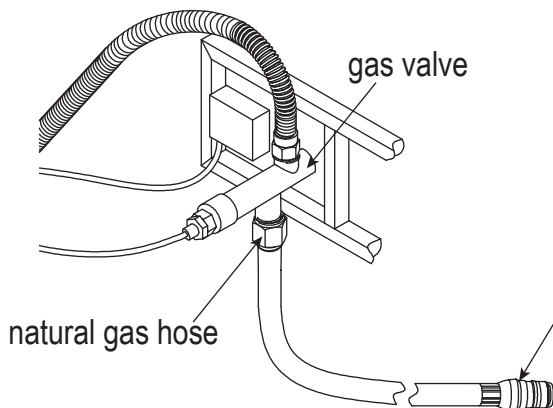
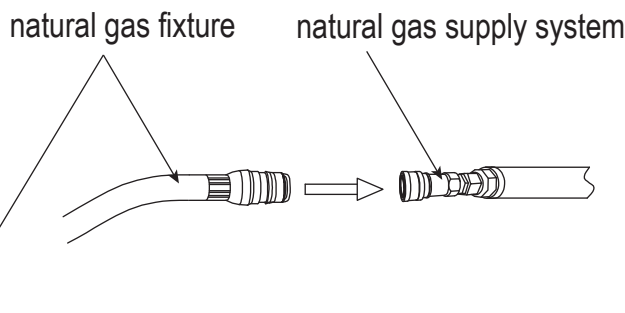

Figure 15
Figure 16
4. Connect the natural gas hose to the gas valve by screwing clockwise tightly (see Figure 15). Plug the natural gas fixture into the natural gas supply system (see Figure 16). The conversion kit should be CSA certified. Below are several suggested CSA certified conversion kits for your reference.